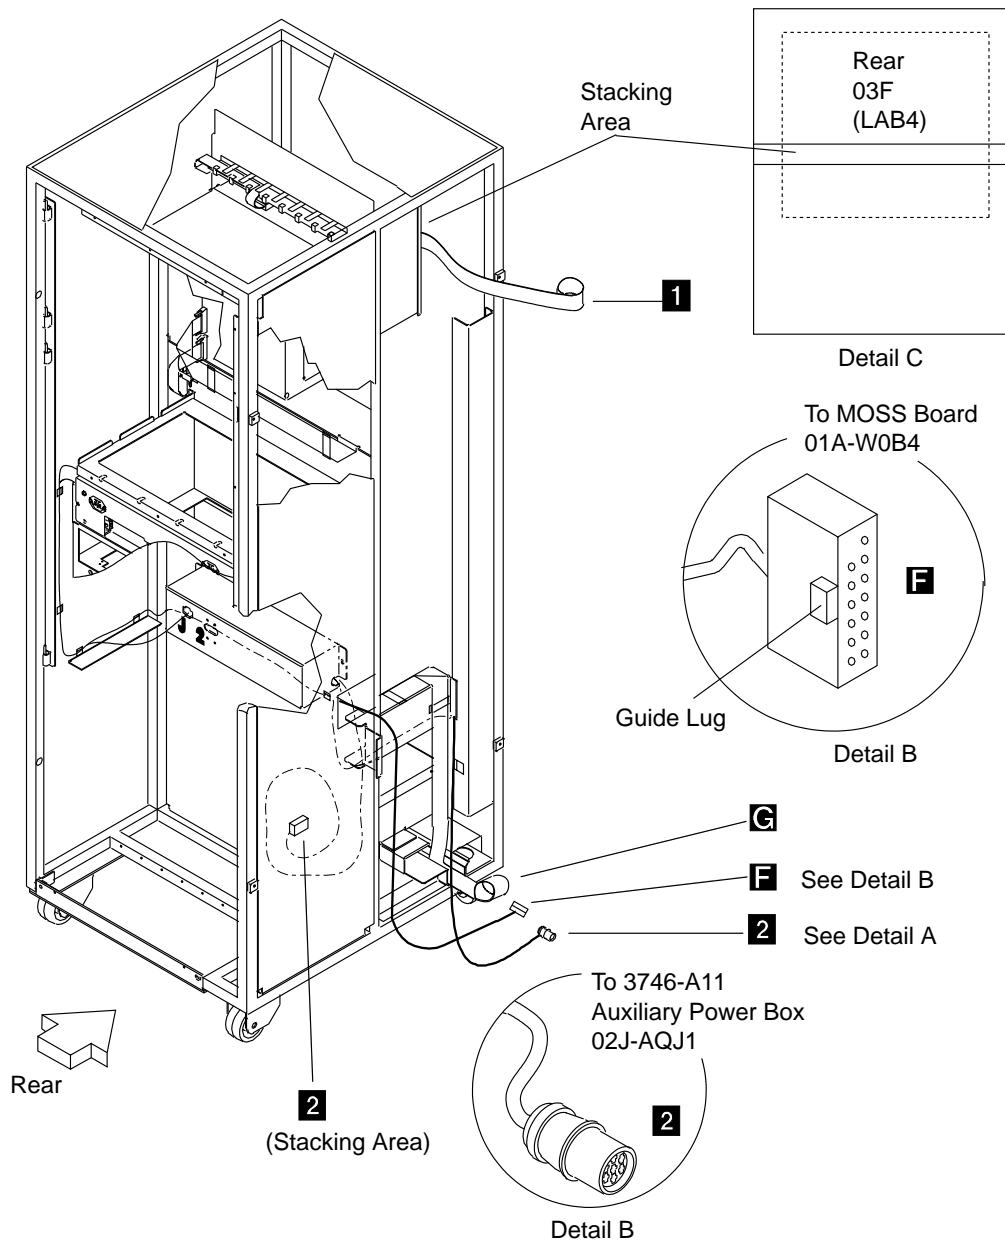

Figure 5-7. Cables from the 3746-A12 (Rear View)
- \_\_\_\_ See Figure 5-7 on page 5-10 and familiarize yourself with the table at the top of the page.
- Step 4. \_\_\_\_ At the top of the 3746-A12, locate the four flat IOC cables **1**. They are stacked at the location shown by detail C of Figure 5-7 on page 5-10. The cables are labeled: 02F-A1X02, 02F-A1X03, 02F-A1X04, and 02F-A1X05.
- Step 1. \_\_\_\_ Referring to Figure 5-7 on page 5-10, in the 3746-A12 locate the flat power control cable **G** labeled "from 03G-A0J8 to 01A-W0C5". Cable **G** is rolled and stacked under the air filter. Remove the covers of the cable path and the plate in the base frame to route the cables.
- Step 1. \_\_\_\_ Referring to Figure 5-7 on page 5-10, in 3746-A12 locate the cable **F** labeled 01A W0B4.
- Step 1. \_\_\_\_ Referring to Figure 5-7 on page 5-10, in the 3746-A12 locate the power cable **2** stacking area. Cable **2** is labeled P1.